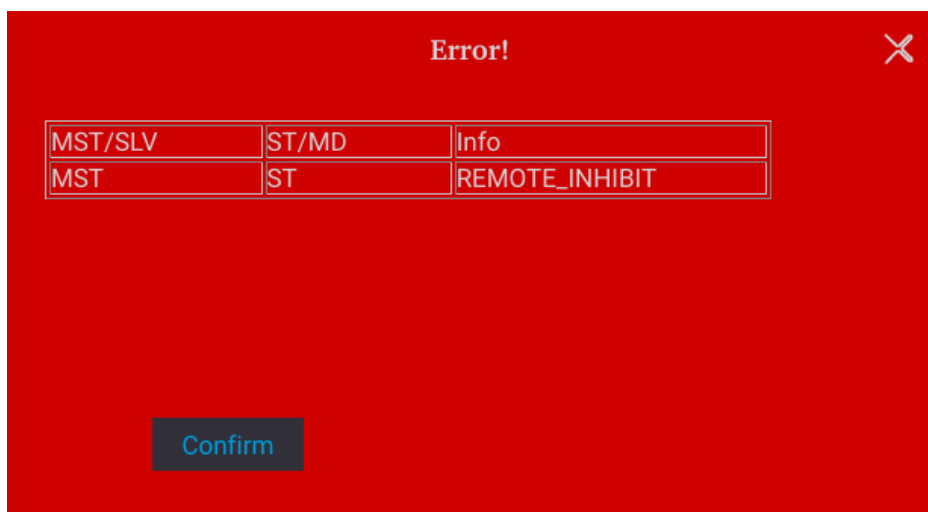

Figure 3-100
2. When protection occurs to REMOTE INHIBIT the main page will appear with the protection message as Figure 3-100 shows.